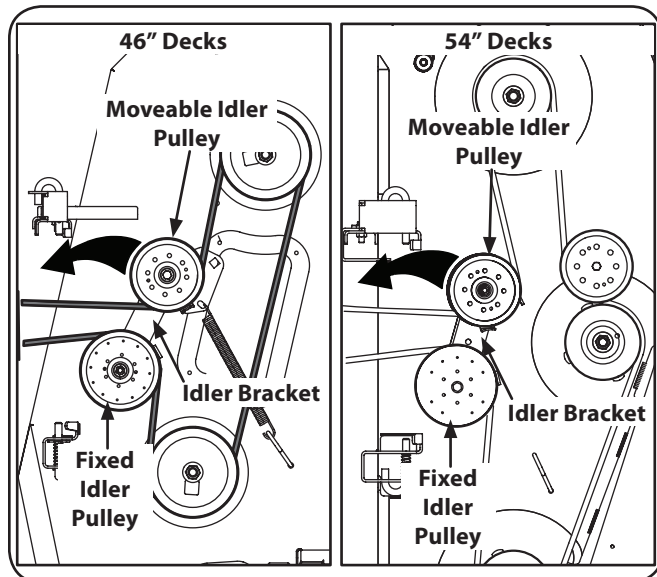

Figure 7-4
- Working from the middle of the tractor, pivot the idler bracket and movable idler pulley rearward away from the backside of the "V" belt just far enough to lift the belt up and over the idler pulley. See Figure 7-4.